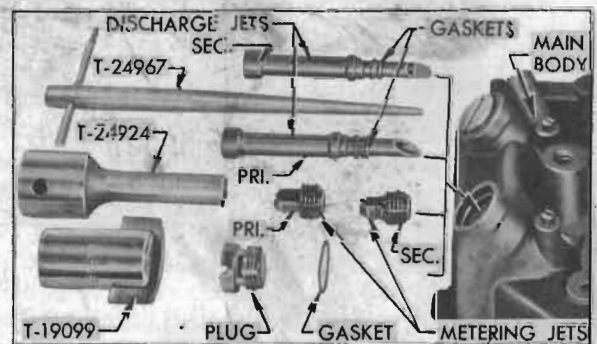

Figure 3-90—Main Metering and Discharge Jets and Tools
15. Remove main discharge jet plugs using Screw Driver T-19099, remove copper gaskets, then remove main metering jets using Jet Socket T-24924. See figure 3-90.
16. Remove main discharge jets by screwing Jet Remover T-24967 (R.H. thread) into base of jet, then pulling jets from main body. See figure 3-90. The threads formed in the main discharge jet by the tool will not affect the metering characteristics of the jet. **NOTE:** Make sure that main discharge jet lead gaskets are removed from main body.
9. Place *new* lead gaskets on upper ends of all main discharge jets and use Jet Remover T-24967 to install jets in main body. See figure 3-90. *Upper flat surface of secondary jets only are notched.* Flat surface of all jets must be parallel with direction of air flow when installed.
10. Install main metering jets, using Jet Socket T-24924. The *secondary* jets are marked "051" and have a groove on the shank. The *primary* jets are marked "049," and the shank is not grooved. See figure 3-90.